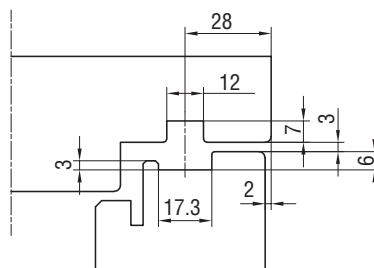

FIG. 2 EXAMPLE WOOD PROFILE
1. SIDE FRAME AND SIDE SASH IS MADE WITH IPA SYSTEM GROOVES. SEE FIG. 2.